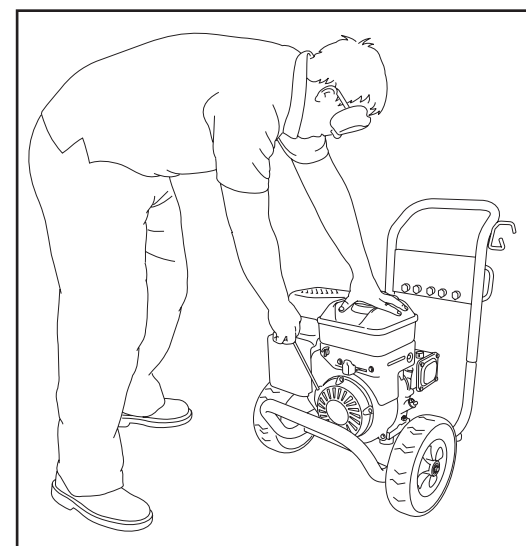

FIGURE 12
9. When starting engine, hold top of air cleaner with left hand. With your right hand, pull cord slowly until resistance is felt and then pull rapidly to avoid kickback. (See Figure 12)